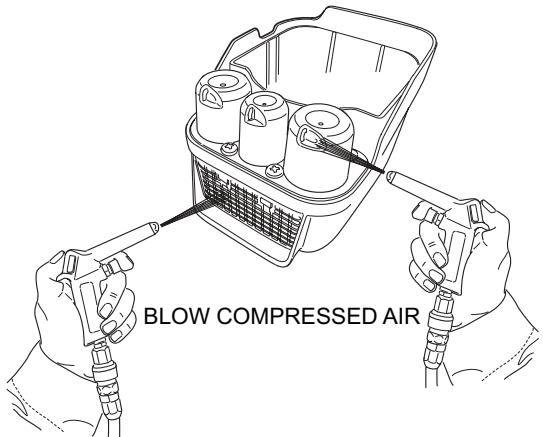

Figure 27. Engine Air Filter Cover
- Blow compressed air through the air cleaner cover as shown in Figure 27. Clean inside of air filter cover with warm, soapy water or nonflammable solvent. Rinse and dry thoroughly.